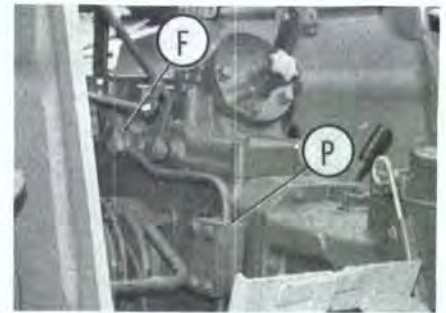

Fig. 137—If hydraulic pump will not prime, loosen accessory plate (P) or pressure line fitting (F) to relieve vapor lock at back pressure valve.
When installing pump, install new "O" rings in pressure and intake line flanges, using clean grease to retain intake flange "O" ring. Install and securely tighten pump mounting cap screws and stud nuts. Install and tighten lower pressure line flange, checking first to be sure "O" ring is properly installed. Before installing intake line, pour top opening of pump full of clean oil. Check intake flange "O" ring, then install intake line. A well lubricated pump should pick up prime within a few seconds. If pump fails to prime, loosen accessory plate (P—Fig. 137) or pressure line fitting (F) to release trapped air. Restart and accelerate engine, but be ready to stop engine immediately when pump primes. Main purpose of back-pressure valve installed in system is to keep lines full and prevent loss of prime when tractor is stopped. Valve can trap air in pressure line, however, and make it difficult to prime a newly installed pump.